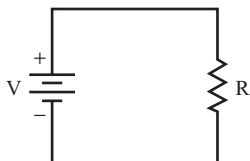

FIGURE 1.1
- A.** Draw arrows to show the current flow in Figure 1.1. The symbol for the battery shows its polarity.
- C.** Voltage causes current to flow if there is a complete circuit present, as shown in Figure 1.1.